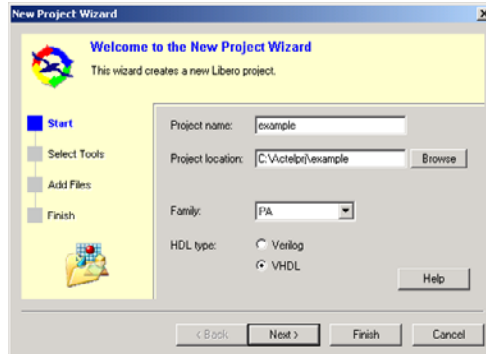

Figure 2-1. New Project Wizard in Libero IDE
- From the **File** menu, select **New Project**. This displays the New Project Wizard, as shown in Figure 2-1.